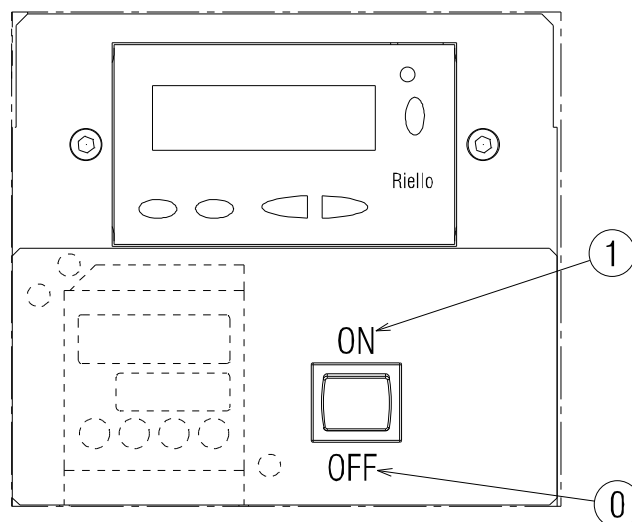

Fig. 30
Close the thermostats/pressure switches and set the switch of Fig. 30 to "1/ON".
- put the switch of Fig. 30 to "0/OFF" and wait until the flame control carries out the switching off phase;